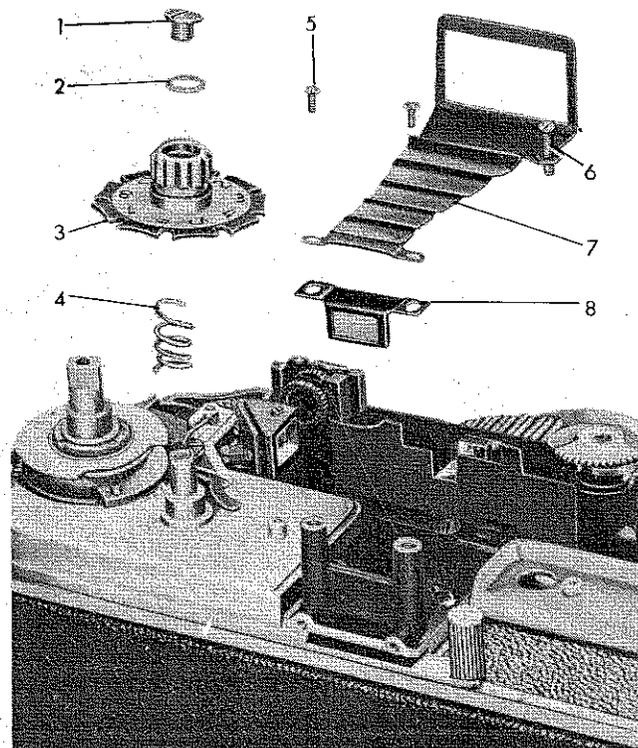

Figure 26—Counter Dial Assembly, Exploded from Camera
(1) Holding down the counter dial assembly (3, figure 26) with the fingers, remove the counter knob screw (1, figure 26). Then lift off the counter knob washer (2, figure 26), the counter dial assembly, and the counter knob spring (4, figure 26).
(1) Remove the range finder plate to mechanism plate screw (16, figure 27) directly in front of the range finder eyepiece and under the parallax frame assembly (7, figure 26). If the screw cannot be turned without removing the parallax frame assembly, be sure to note very carefully the position of the parallax frame assembly before removing the two range finder eyelet frame screws (5, figure 26) which hold the parallax frame assembly and the range finder eyelet lens assembly (8, figure 26) to the range finder plate. On reassembly, the parallax frame assembly must be replaced in the same relation to the range finder reflection guard (18, figure 27).